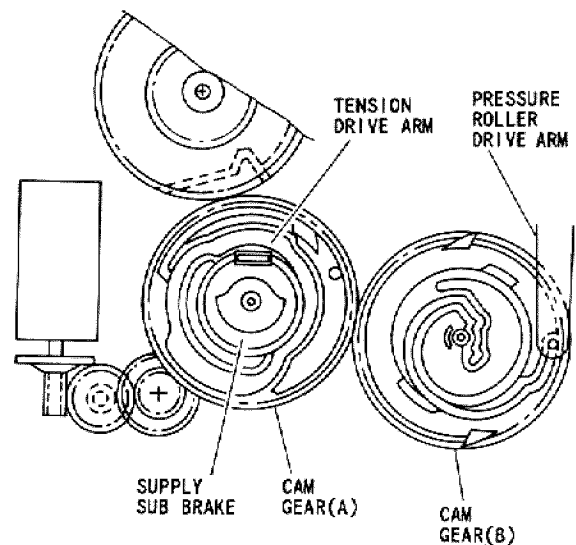

Fig. 6-22
- 2) Check that the bosses of the supply sub brake and tension drive arm are inserted into the specified positions. (See Fig. 6-22)
- 4) Check that the boss of the pressure roller drive arm is inserted into the groove in the cam gear-(B). (See Fig. 6-22)